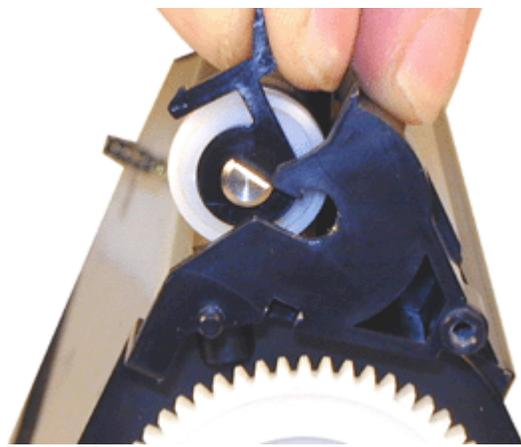

FIGURE 30
25. Clean the magnetic roller assembly with a dedicated magnetic roller cleaner. Install the assembly left side (round shaft) first. Drop the keyed shaft into its slot. See Figure 30